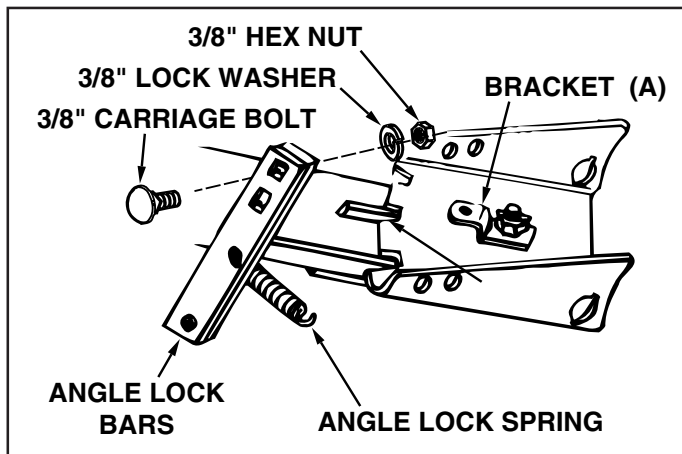

FIGURE 9 (Right Hand Side View)
- Assemble the two angle lock bars together as shown in figure 9 so that all holes are aligned. Use one 3/8" x 1-1/4" carriage bolt, one 3/8" lock washer and one 3/8" hex nut. Be sure to insert bolt from side indicated. **Do not tighten at this time.** See figure 9.
- Insert straight end of angle lock spring through middle hole in angle lock bars so that hook opening on other end of spring is facing up towards square holes in bars as shown. Assemble hook end of angle lock spring up through bottom of hole in bracket (A). See figures 9 and 10.